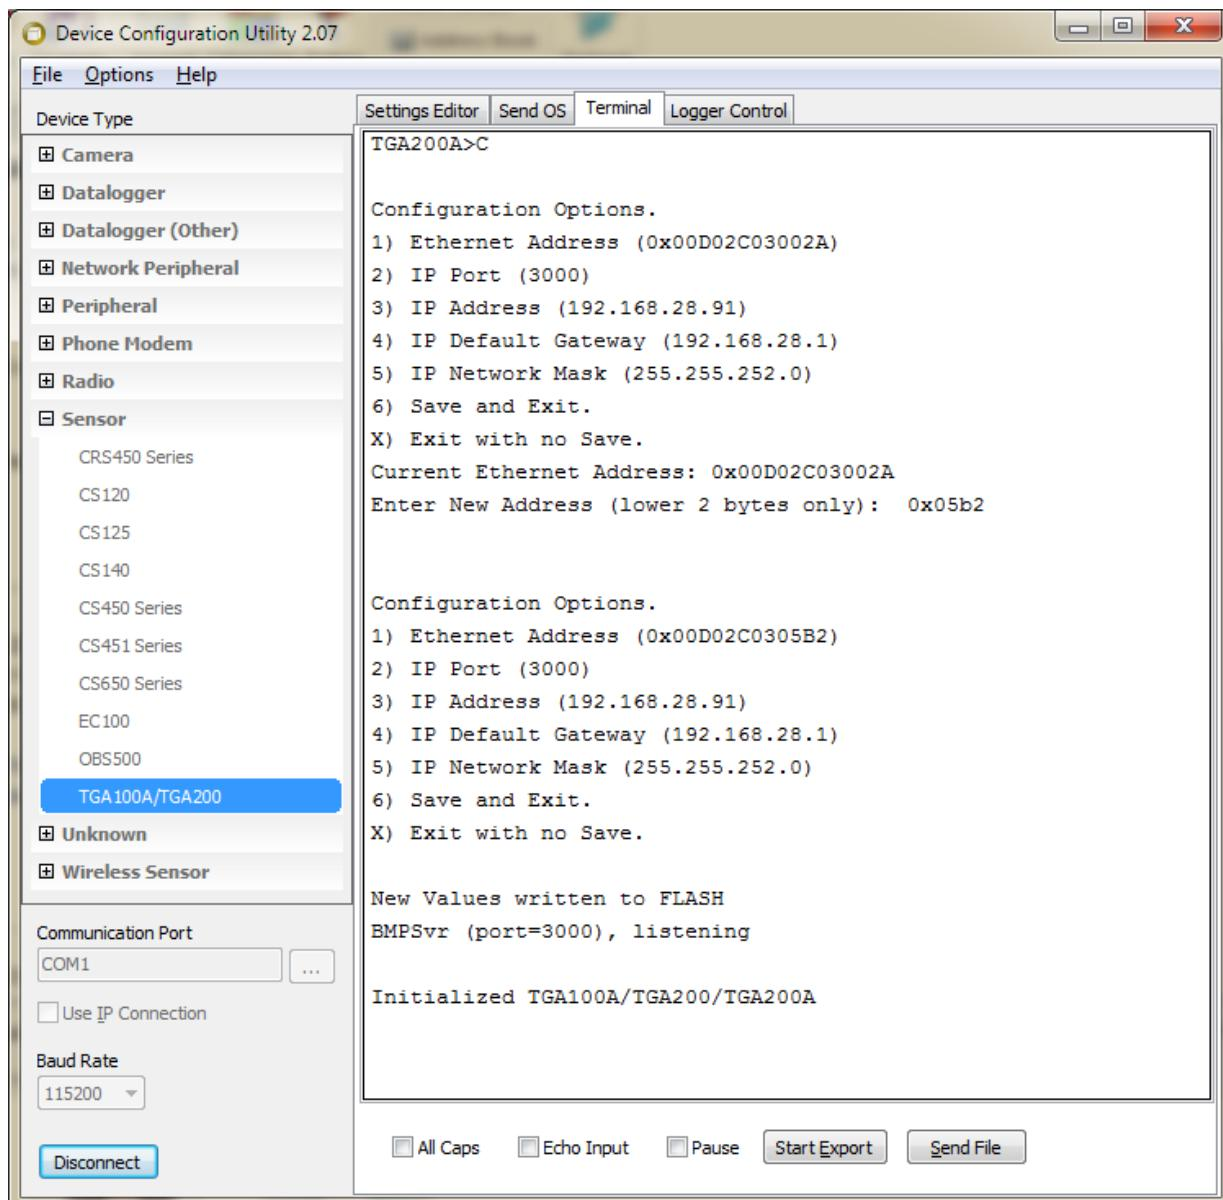

FIGURE 6-23. Device Configuration Utility Terminal tab
5. Select *Terminal* mode and then uncheck the **All Caps** box at the bottom of the window as shown in FIGURE 6-23.